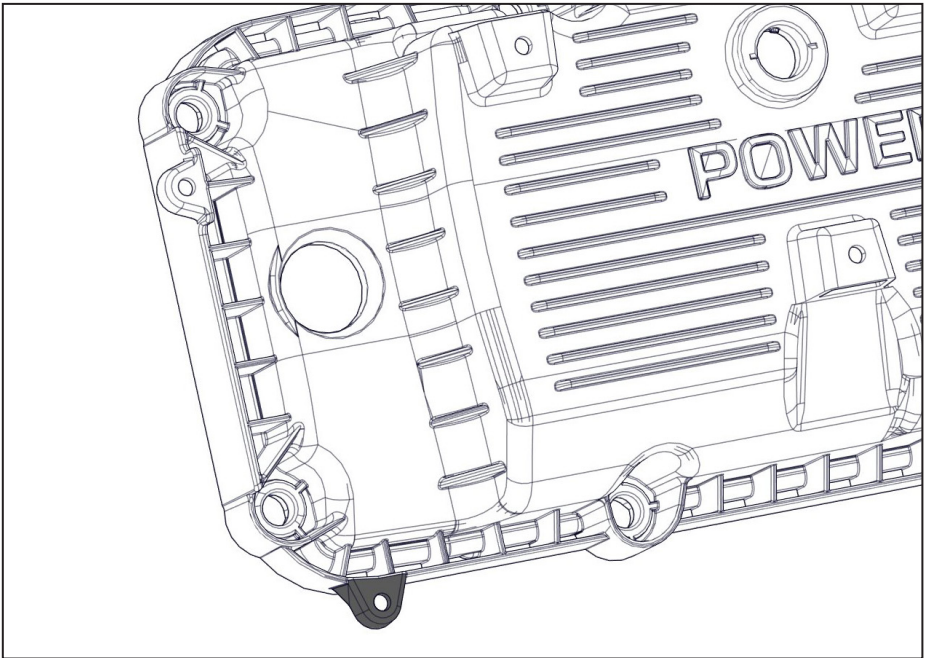

Figure 14 — Disconnect sensor
- Using a die grinder or pneumatic cut off wheel, remove the wire harness mounting tab on the driver side valve cover (Figure 14).